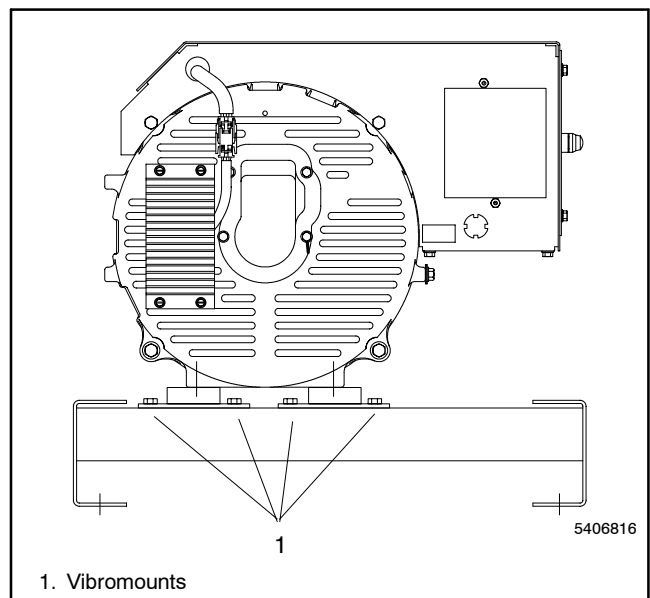

Figure 6-27 Mounting Hardware
13. Use a hoist to raise generator high enough to remove support blocks from beneath oil pan. Lower generator set onto skid and replace vibromount hardware. See Figure 6-27.